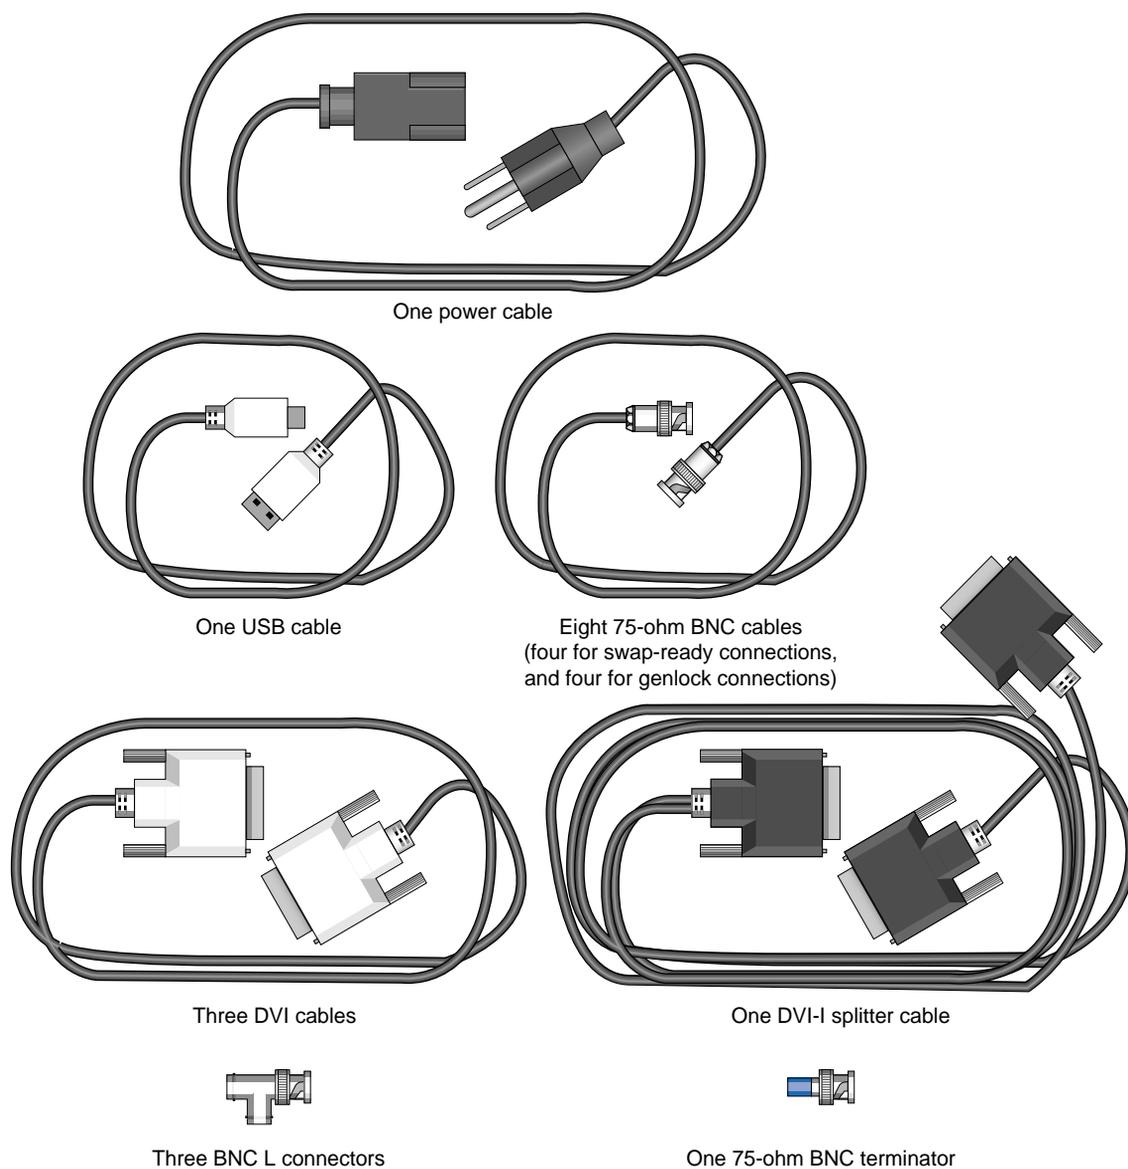

Figure 3-3 Cables and Other Cabling Items Needed for Installation
1. Be sure that the compositor power switch on the rear panel is in the OFF (O) position and that it is not connected to a power source.
2. Gather the following cables and other cabling items, most of which are shown in Figure 3-3: